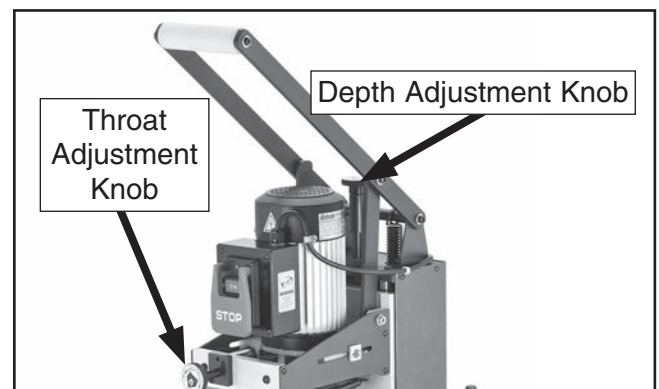
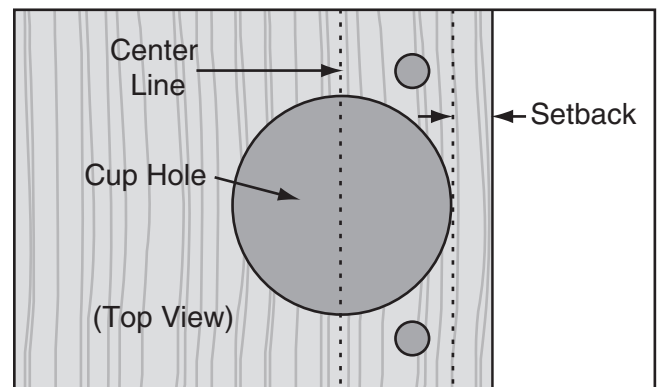

Figure 36. Depth adjustment knob.
Figure 37. Determining setback & center line.
The drilling depth is adjusted using the depth adjustment knob, shown in **Figure 36**. Setback, the distance between the cabinet door edge and hinge hole, as shown in **Figure 37**, is adjusted using the throat adjustment knob.
1. Determine the amount of setback required (see **Figure 37**), then mark it on the scrap board.